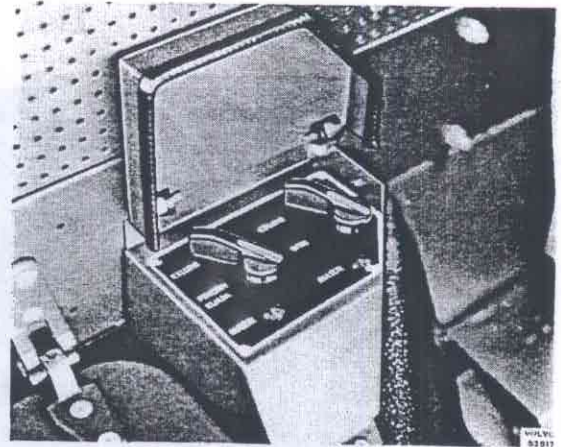

Fig. 48-5. Removing the housing
2. Replace the O-ring on the handle Fig. 48-5 and coat it with a little grease.
3. Screw loose the panel see Fig. 48-5. Disconnect the hoses from the housing.